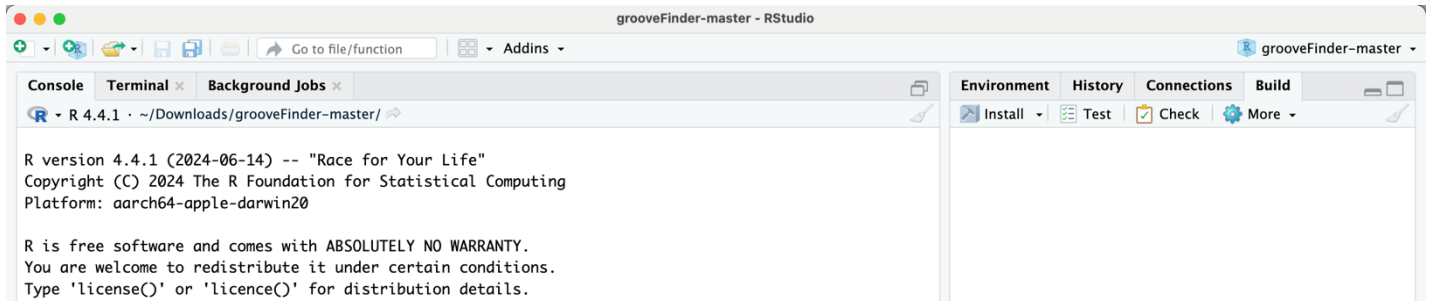

Figure 6. The grooveFinder R package is open in RStudio.
- Double-click on grooveFinder.Rproj. This will open grooveFinder in RStudio and “grooveFinder-master” is displayed in the upper right corner. (Figure 6)